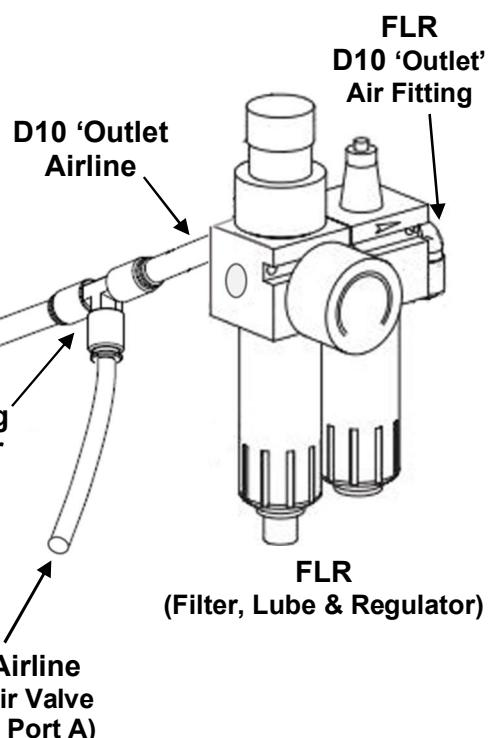
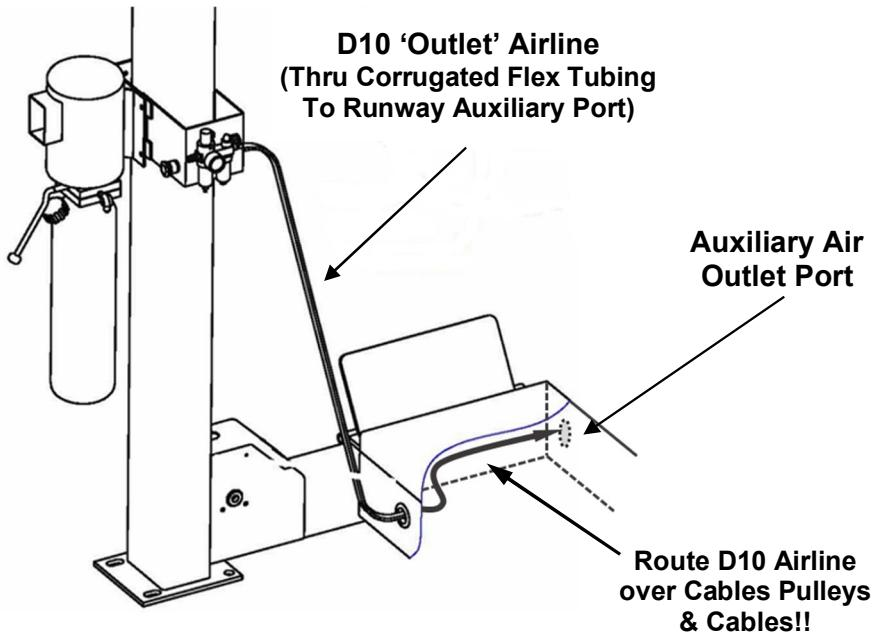

Fig. 5
Fig. 6
7) Using D10 x 71+Airline, connect to remaining (M10) T-Fitting end in **Fig. 5**, then carefully route through the Corrugated Tubing to extend through runway hole and over & across to Auxiliary Air Outlet Port located on inside, front section of the runway, **Fig. 6**.